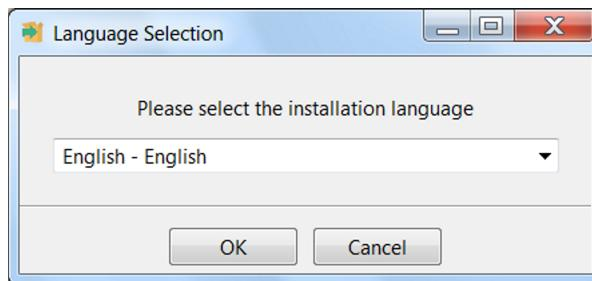

Figure 15. Language Selection
Step 2. Follow the prompts to select another language from the default of English (see Figure 15).